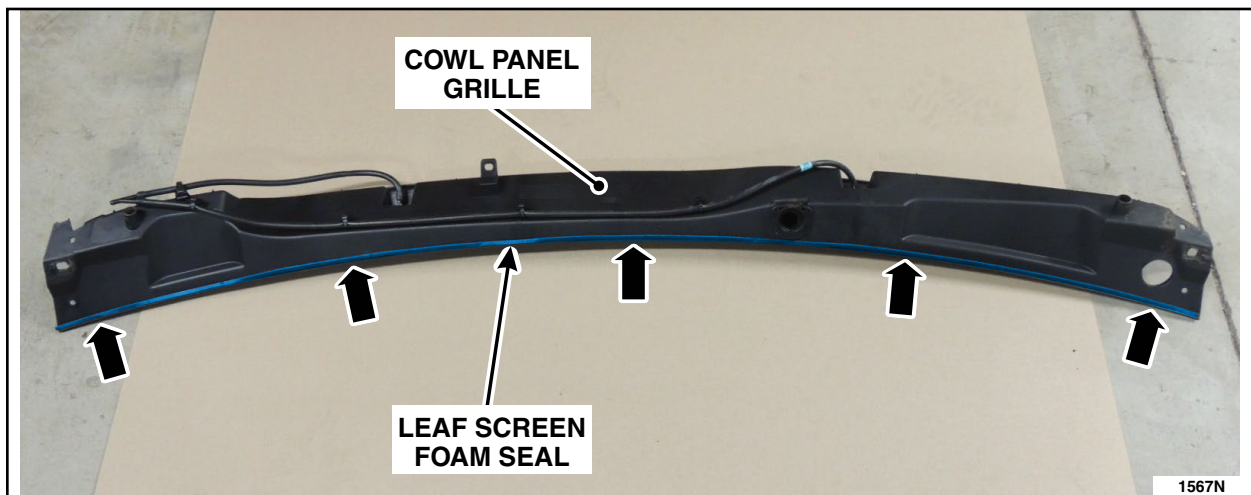

FIGURE 2
3. Apply the leaf screen foam seal along the back of the cowl panel grille. See Figure 2.